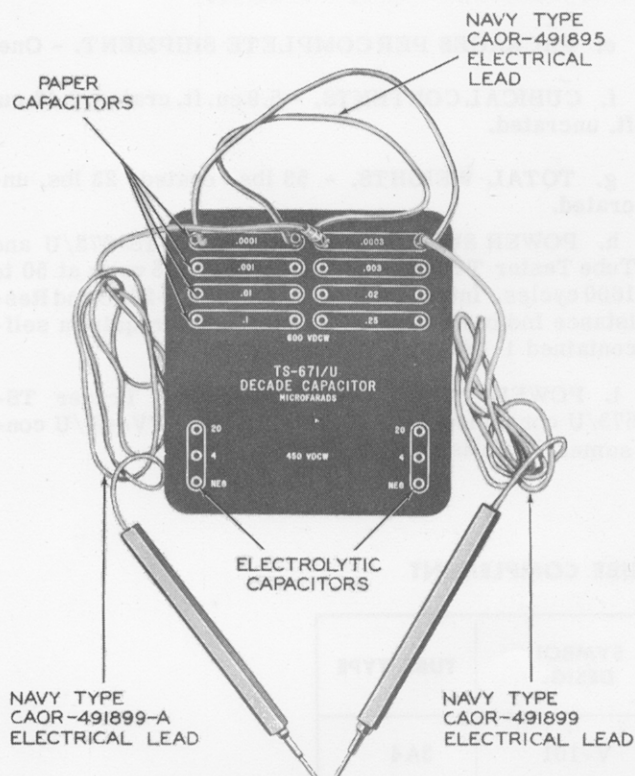

Figure 1-9. Decade Capacitor TS-761/U, Identification
i. **DECADE CAPACITOR TS-671/U.** (See figure 1-9.)